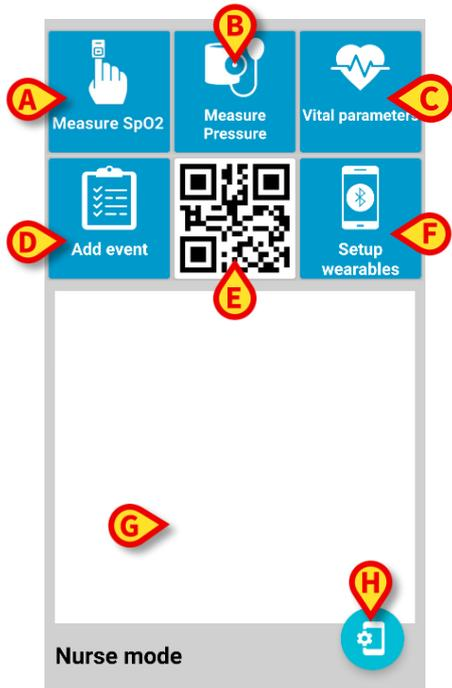
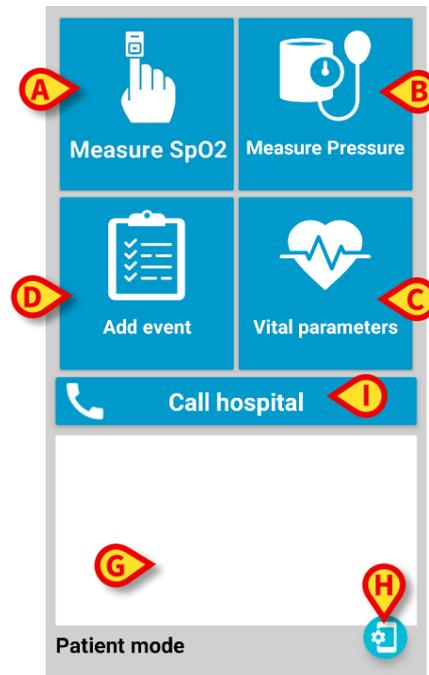

Fig 3
Fig 4
- List of Actions (refer to Fig 3 and Fig 4):